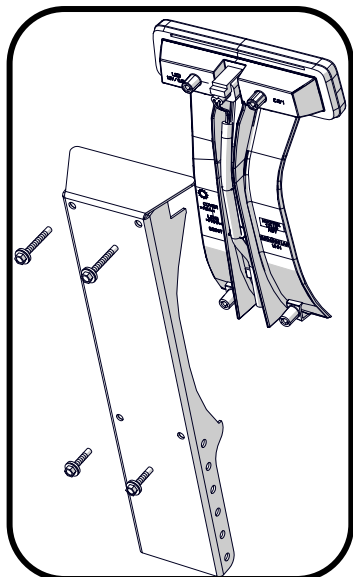

Figure 4
4. Position the light in the extension housing (997222). Note the screw length. The longer screws go in the top holes. (Figure 4)